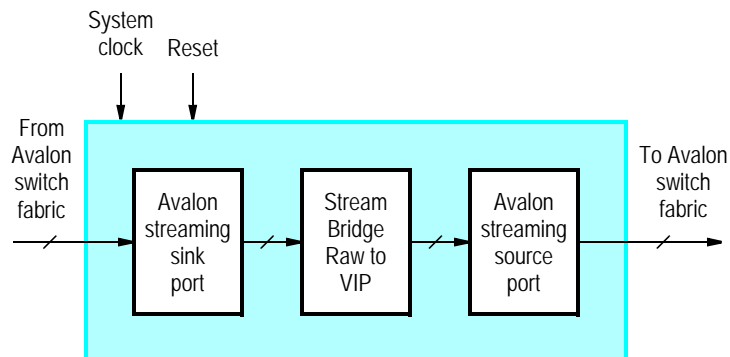

Figure 66. Video-Stream Bridge: Raw to VIP core's block diagram.
The Raw-to-VIP bridge takes an input stream in the University Program (UP) video stream format and converts it to the VIP format. Then, the VIP-formatted data is outputted via the Avalon streaming source interface. Figure 66 shows a block diagram of the core. The UP video stream format is essentially raw video data, as described in Section 2.2.